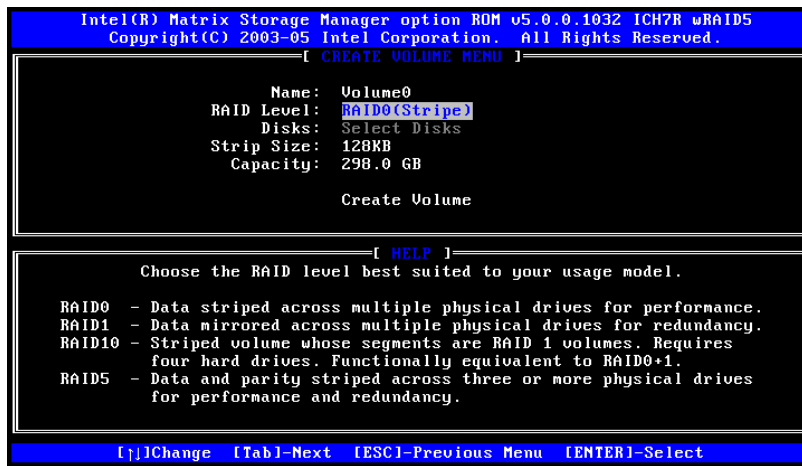

Figure E-3: Choose the Raid Level
Step 3: Choose the RAID level. Select a RAID level from the list. RAID levels include RAID 0, 1, 5 and 10. See **Figure E-3**.